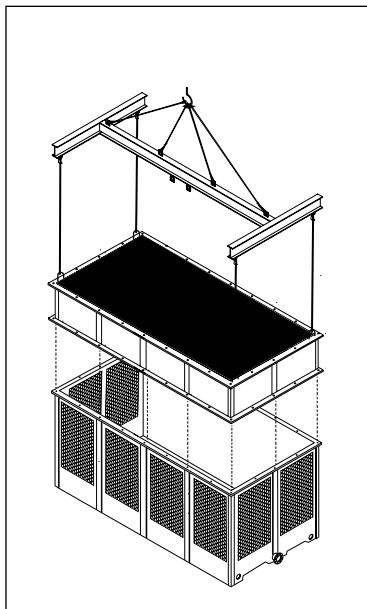

Figure A-58: Lower body section assemble for a Modular Tower (RTM-D or RTPM-D)
K. **Only for RTM-D or RTPM-D models:** Assemble Lower Body section #1 on top of basin section #1, make sure that the bolt holes on Lower Body section #1 are aligned with the perforations on basin section #1, then bolt down and secure the horizontal flanges with the stainless steel nut and bolt sets supplied by REYMSA (see Figure A-58).